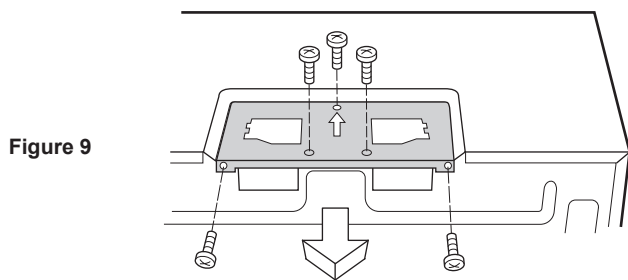

Figure 9
1. Remove and save 2 screws from back edge and 3 screws from the top center of the FAN COVER BRACKET. Remove FAN COVER BRACKET by sliding it in the opposite direction of the arrow on the FAN COVER BRACKET. See figure 9.